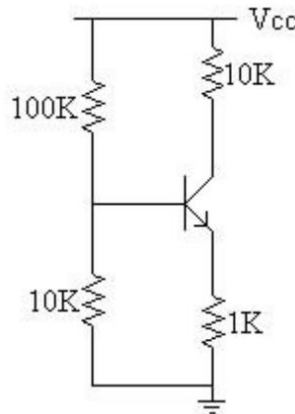
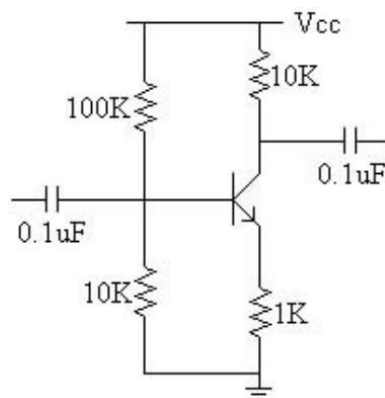

Figure 1
Figure 2
- Set up the circuit on your breadboard as shown Figure 1 below, with  $V_{CC} = 15V$
- To the circuit you already built in Figure 1, add capacitors to the input and output as shown in Figure 2.